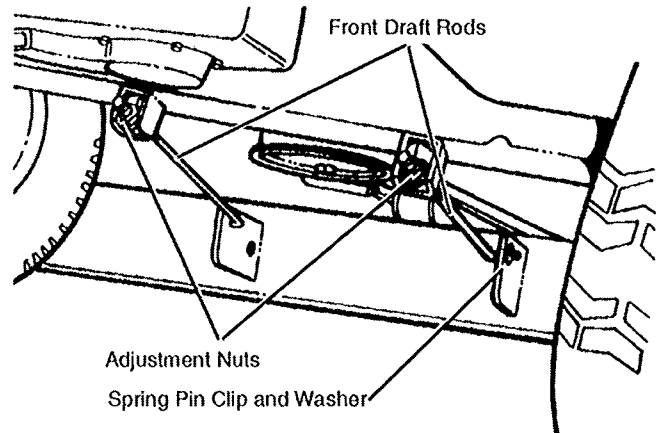

FIG. 44
- Remove spring pin clips and washers from two mower draft rods at front of deck. (See Fig. 44)
- Attach draft rods to front of deck with washers and spring pin clips. (See Fig. 44)